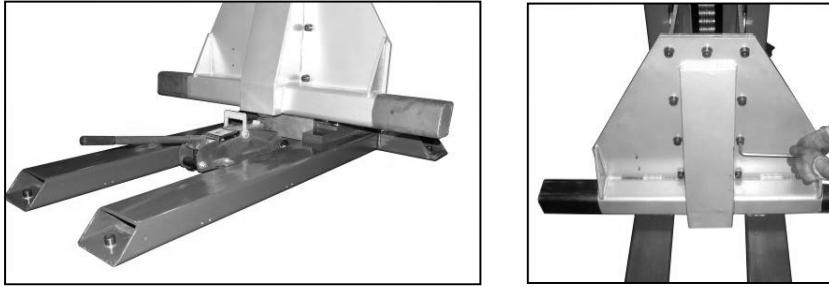

Figure: 8-A, B Lifting carriage
- 10) Next, you must fasten the frame of the lift to the carrier with screws. (Fig. 8-A, B) A hydraulic jack or pulley block is well suited for levelling with the holes. Then tighten all the screws on the frame.